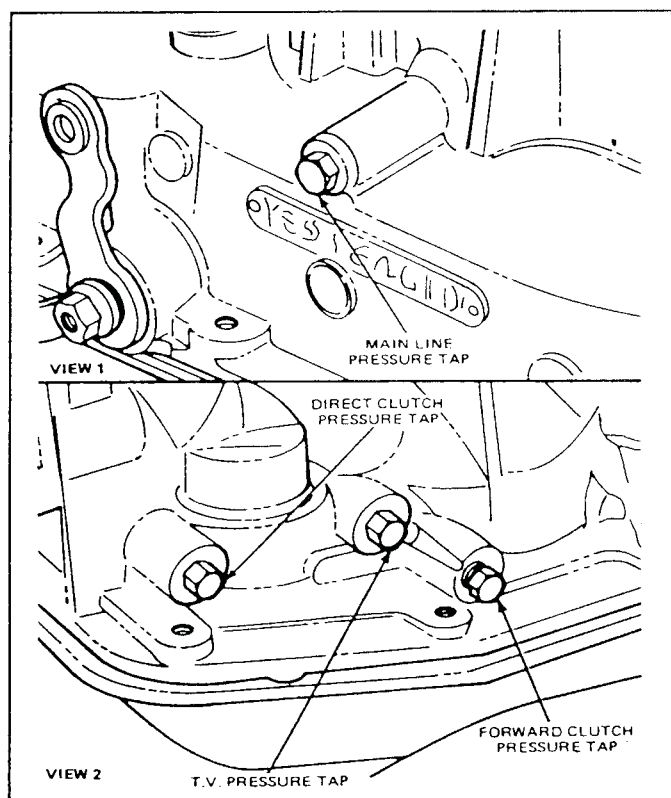

FIG. 9 Control Pressure Connecting Points—AOD
2. Connect a 300 psi gauge to the line pressure port on the case left side just above the control lever (Fig. 9). Have sufficient flexible hose to make the gauge accessible while operating the engine.
3. Connect a 0-100 psi pressure gauge to the TV port on the right side of the case (see Fig. 9). Have sufficient flexible Hose to make the gauge accessible while operating the engine.
1. Attach 0-300 psi pressure gauges to the forward clutch pressure tap and to the direct clutch pressure tap (Fig. 9). Gauge accuracy must be capable of distinguishing a 15 psi difference. (If this test is done in conjunction with a control pressure test, pressure gauges will be attached to all pressure taps.) Have sufficient flexible hose to read the gauges in the vehicle.
Closed throttle downshifts should be extremely difficult to detect. It may be necessary to attach pressure gauges to the forward and direct clutch pressure taps (Fig. 9) in order to detect 4-3 and 3-2 coast downshifts.